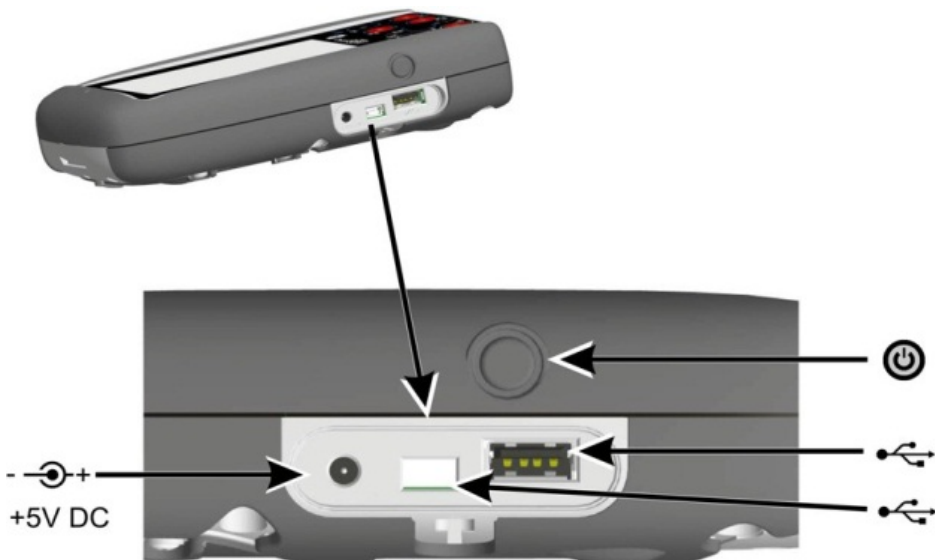

Figure 1-2
1. Connect the DC power supply into the +5V DC connection on the side of the unit (Ref: Figure 1-2).
2. The battery can also be charged using the USB connections (Ref: Figure 1-2).
From OFF – momentarily press the power button until the display flashes (Ref: Figure 1-2) .